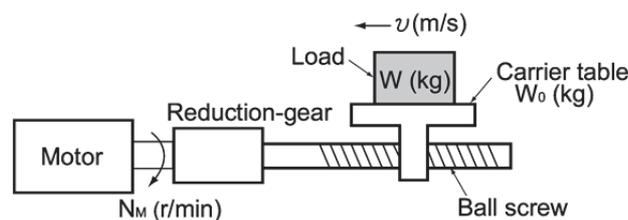

Figure 10.3-1 Moving a Load Horizontally
A simplified mechanical configuration is assumed as shown in Figure 10.3-1. If the mass of the carrier table is W_0 (kg), the load is W (kg), and the friction coefficient of the ball screw is μ , then the friction force F (N) is expressed as follows, which is equal to a required force for driving the load:
Assume a carrier table driven by a motor as shown in Figure 10.3-1. If the table speed is v (m/s) when the motor speed is N_M (r/min), then an equivalent distance from the shaft is equal to $60 \cdot v / (2\pi \cdot N_M)$ (m). The moment of inertia of the table and load to the shaft is calculated as follows: